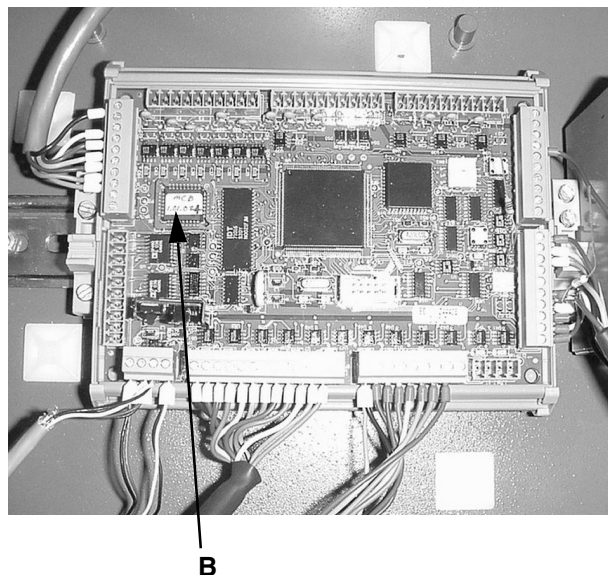

FIG. 1
3. Locate PCB chip (B) on main circuit board. See **FIG. 1**.
4. Remove old chip (B) with chip extractor provided.